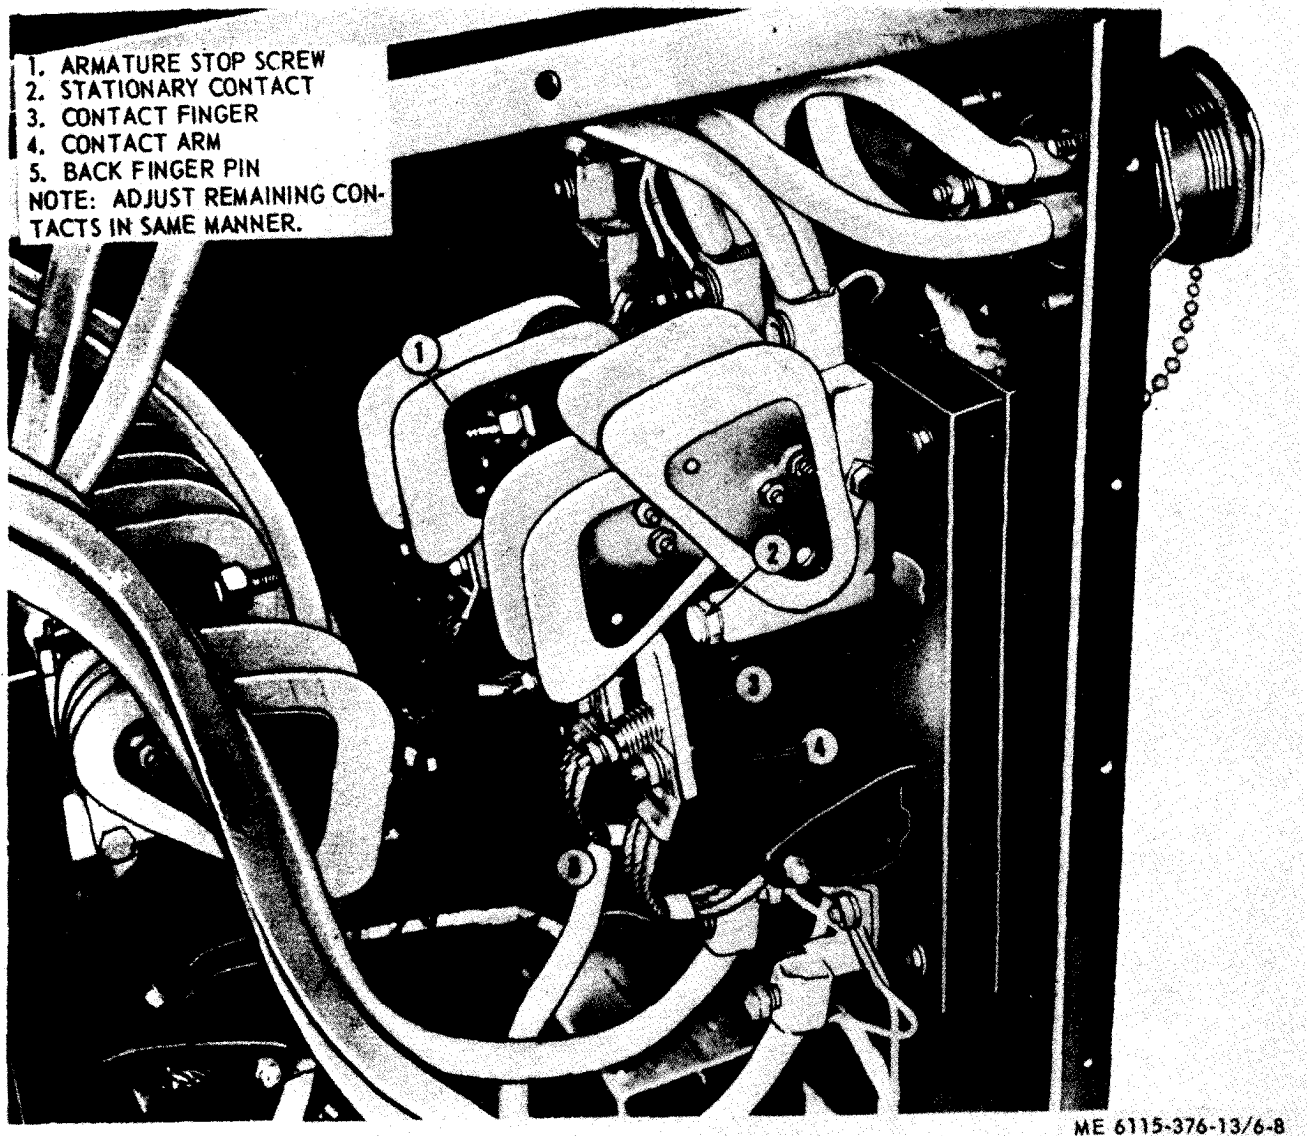

Figure 6-8. Automatic switch adjustment.
(7) Remove locknut (48), washer (26), nut (48), and spring assembly (49). Remove nut (32), washer (6), lead cable (33), and movable contact point (45), and remove washer (44) from point mounting post mounted on terminal board.
*c. Automatic Switch, Adjustment.* Refer to figure 6-8 and perform the following:
(1) Adjust open contact gap to 5/8-inch by turning nut on armature stop screw in or out.
(2) Adjust back finger gap between contact finger and contact arm to 1/4-inch by turning back finger pin in or out.
(3) Closed contact deflection should be 1/16-inch manual. All contacts must make and break simultaneously.